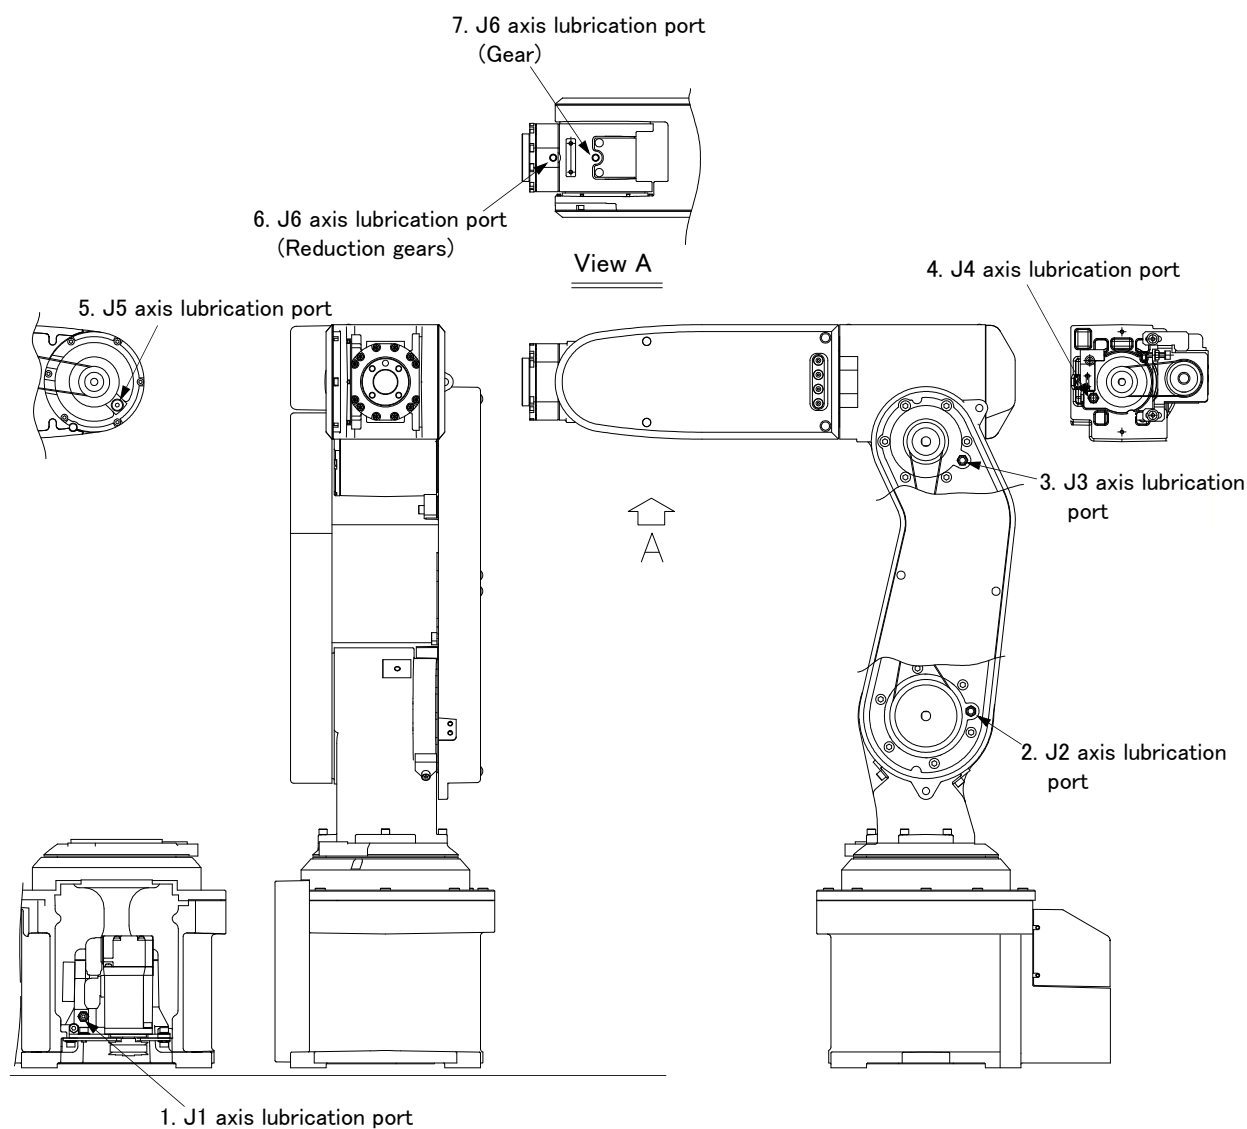

Fig.5-27 : Lubrication positions (RV-2FR series)
The grease nipple position is shown in Fig. 5-27. The lubrication specifications for each place are shown in Table 5-10. Refer to the Page 103, "5.3.2 Installing/removing the cover" for the method of removing and installing the cover.
- The numbers in Table 5-10 correspond to the supply positions in Fig. 5-27.
- 1) Set the robot to the posture shown in Fig. 5-27.